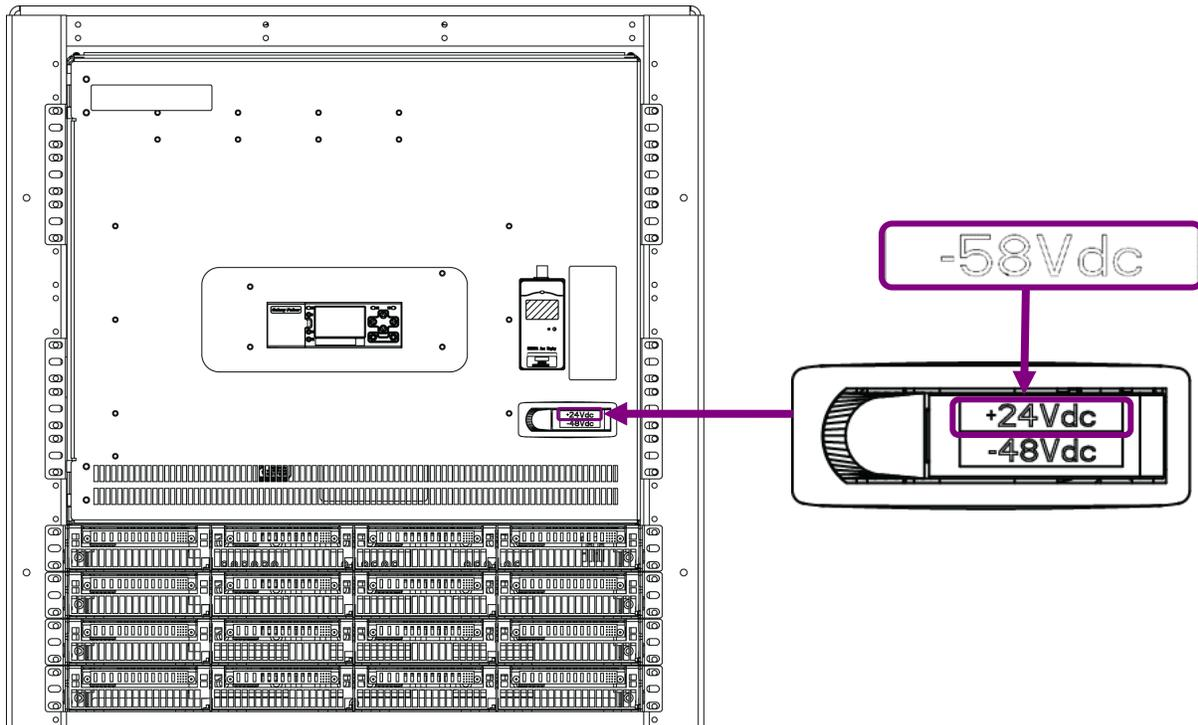

Figure 3. Applying label B
1. Paste the Label-B (8600481039P, -58V_{DC}) on top of +24V_{DC} door latch label as shown in figure 3.